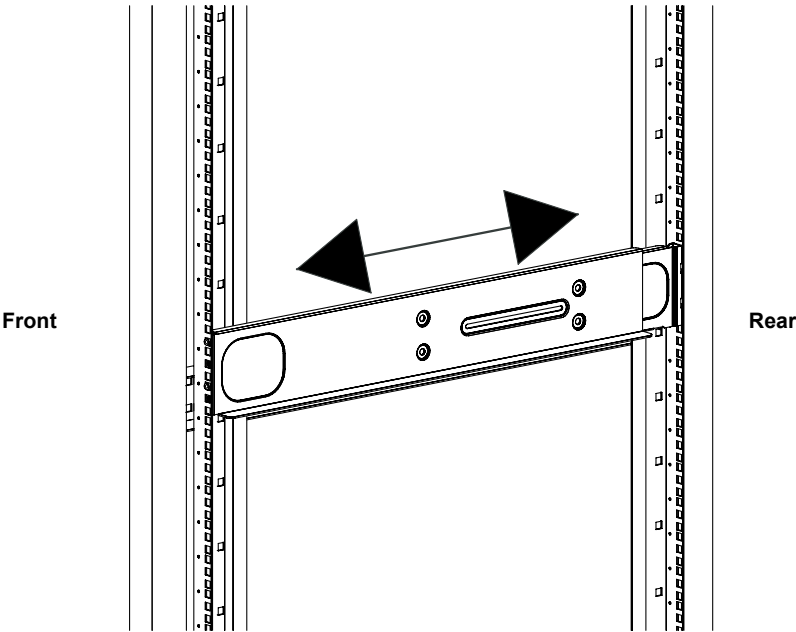

Figure 2-2. Installing the Left Rail
4. Slide the rails sections apart to match the depth of the rack. Position the rails with the template and secure the front of each to the front of the rack with two flat head screws, then secure the back of each rail to the rear of the rack with two flat head screws (see Figure 2-2).